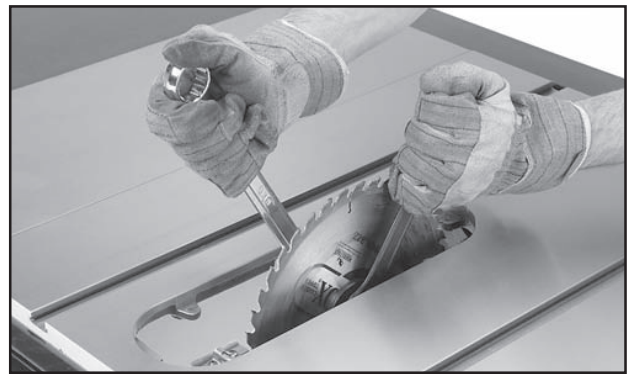

Figure 61. Loosening arbor nut.
5. Re-install the arbor flange and the arbor nut, then tighten them against the blade with the wrenches included with the saw, as shown in Figure 61. DO NOT overtighten.